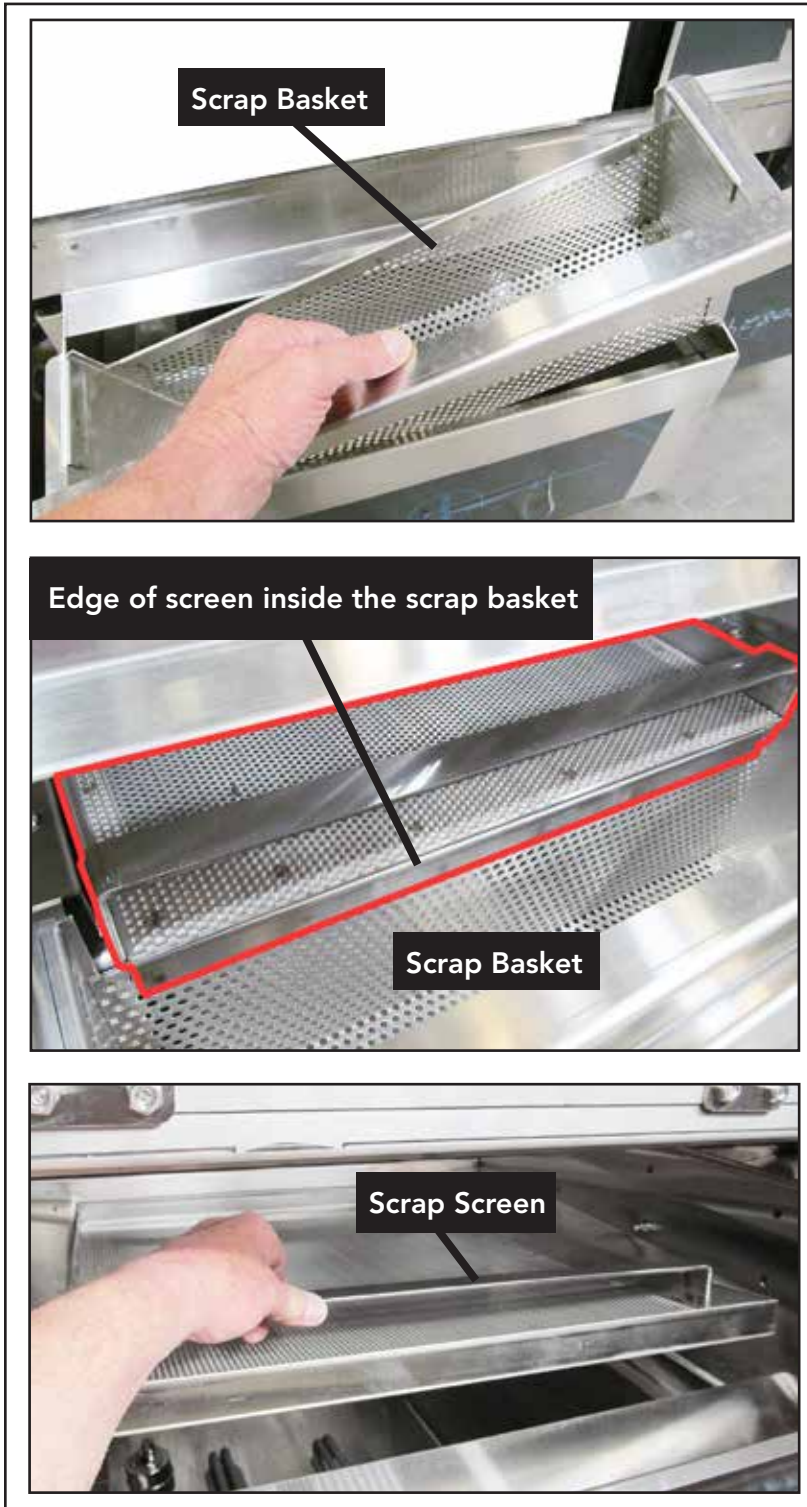

Fig. 12
- Install the scrap basket in the prewash tank and other tanks if equipped. Make sure the scrap basket screen fits over the edge of the scrap basket (Fig. 12).